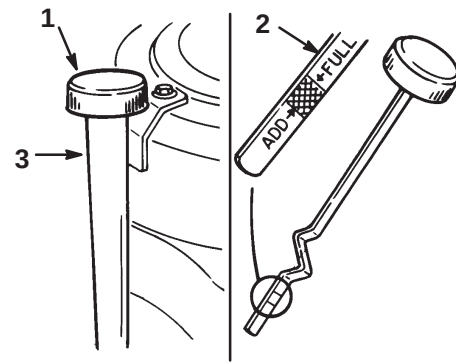

Figure 23
2. Clean around the oil dipstick (Fig. 23) so dirt cannot fall into the filler hole and damage the engine.
3. Unscrew the oil dipstick and wipe the metal end clean (Fig. 23).
4. Thread the oil dipstick fully onto the filler tube (Fig. 23). Pull the dipstick out and look at the metal end. If oil level is low, slowly pour only enough oil into the filler tube to raise the level to the "FULL" mark.
5. Slowly pour approximately 80% of the specified oil, page 25, into the filler tube (Fig. 23). Now check the oil level; refer to Checking Oil Level, page 25. Slowly add additional oil to bring to "FULL" mark on dipstick.